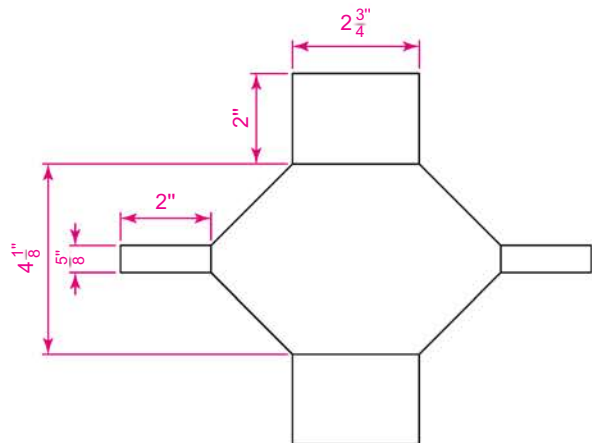

Fig. 4.30 Exercise 8
8. Fig. 4.30 was constructed using only the **Rectangle** tool. Make an exact copy of the drawing using only the **Rectangle** tool.